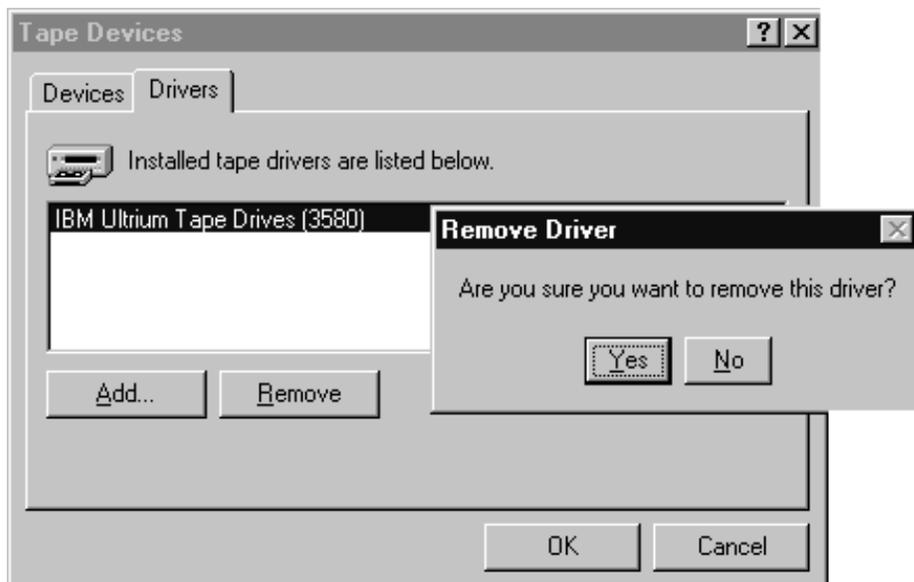

Figure 17. Remove Driver Menu
5. Highlight *IBM Ultrium Device Driver*, then click **Remove**. When you see the message *Are you sure you want to remove this driver?*, click **Yes**. See Figure 17.